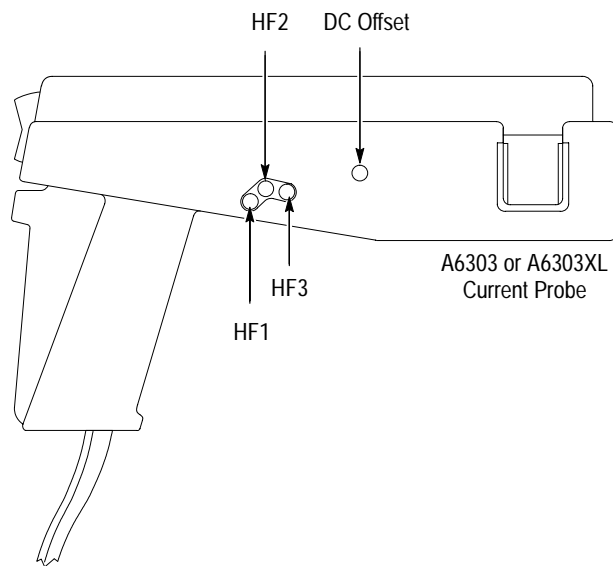

Figure 21: A6303 and A6303XL Adjustment Locations
This procedure describes how to adjust the DC offset of the A6303 and A6303XL using the DC Offset adjustment. Refer to Figure 21 when performing this procedure.
6. Remove the probe access plug for the DC Offset adjust (see Figure 21).
This procedure describes how to optimize the transient response and gain of the A6303 and A6303XL using adjustments HF1, HF2, and HF3. Refer to figures 21 and 22 when performing this procedure.
11. Remove the probe access plugs for HF1, HF2, and HF3. Remove the HF2 plug only for the A6303 (see Figure 21 on page 70).